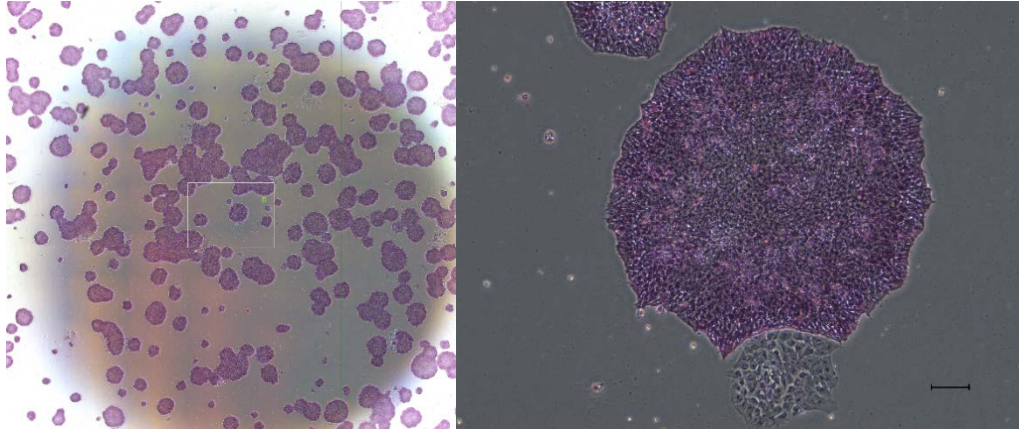

Figure 2. Human iPSCs with alkaline phosphatase staining
5. Aspirate the substrate solution and wash cells with distilled water. After aspirating water, add fresh distilled water and incubate 2 minutes. After shaking gently, dry up the cells (Figure 2).